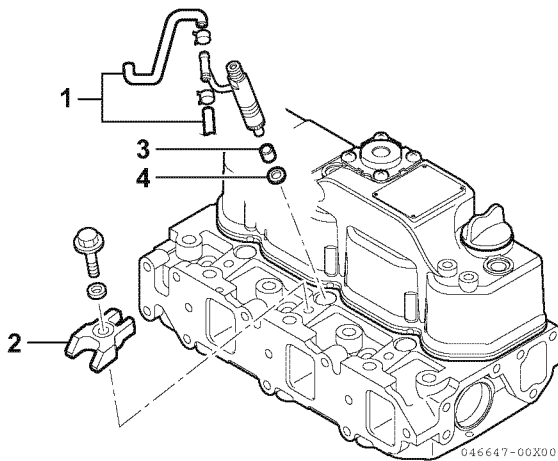

Figure 7-51
1. Reinsert a new nozzle seat (4, **Figure 7-51**) and nozzle protector (3, **Figure 7-51**) in the cylinder head for each injector.
4. Reinstall the fuel injector retainers (2, **Figure 7-51**) and torque the retaining bolts to specification.
5. Reinstall the fuel return hoses (1, **Figure 7-51**), one on each side of each injector.